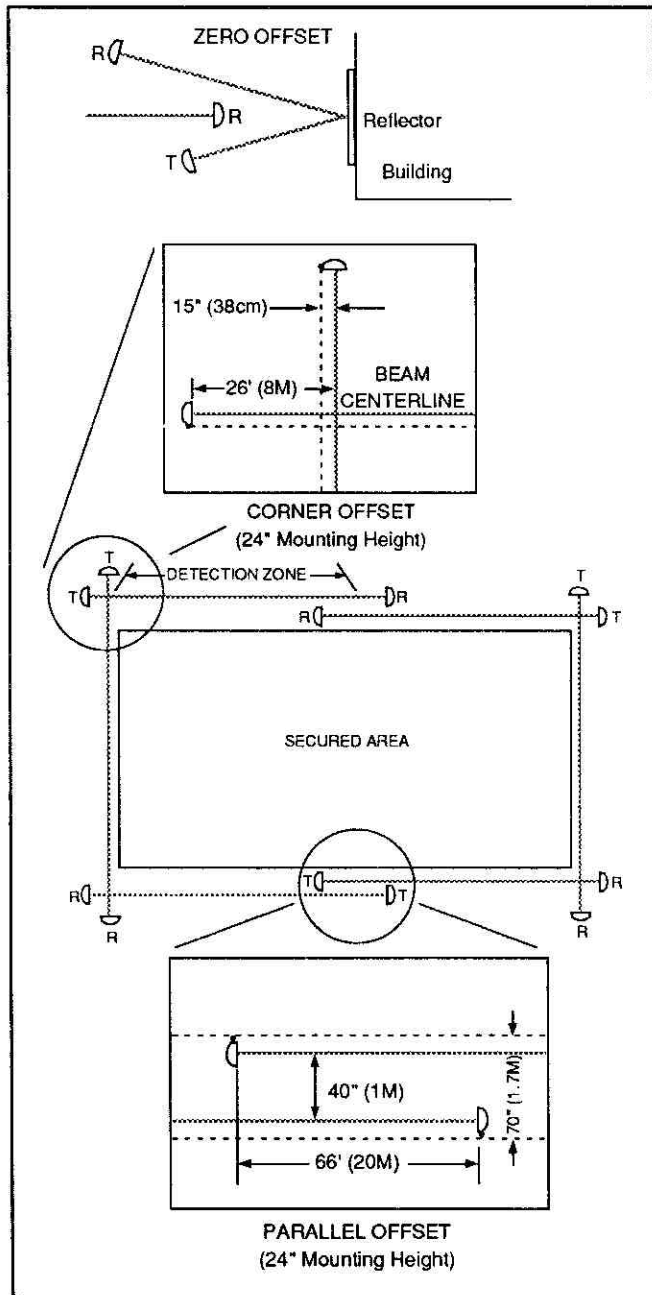

Figure 1: Offset Arrangements in Typical High Security Installations
- b. **Offsets.** Offsets must be provided to prevent the possibility of crawling under or jumping over a unit to gain undetected access to the protected area. The offset distances illustrated in Figure 1 are based on the 14004 mounted at a height of 24", beam centerline to ground. Higher mounting heights require longer offsets. An optional short offset kit is available that reduces the offset to about 16' (4.8m).
- e. Reflectors. As illustrated in Figure 1, reflectors can be used to provide a zero offset in order to protect the ends of zones that abut buildings. Reflectors can also be used to reduce the number of units required for complete protection of short perimeters. Reflectors must be large enough to intercept about 1/2 of the transmitted microwave power, and must be rigidly mounted and cross-braced to preclude movement caused by wind. The use of reflectors should be the exception rather than the rule, and it is recommended that reflector applications be discussed with the Technical Service Department.